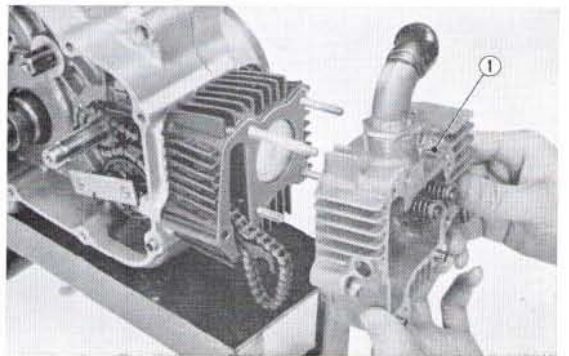

Fig. 2.8 ① Cylinder head
② Bolt
5. Unscrew four 6mm nut, a 6mm screw and then separate the cylinder head from the cylinder. (Fig. 2.8)